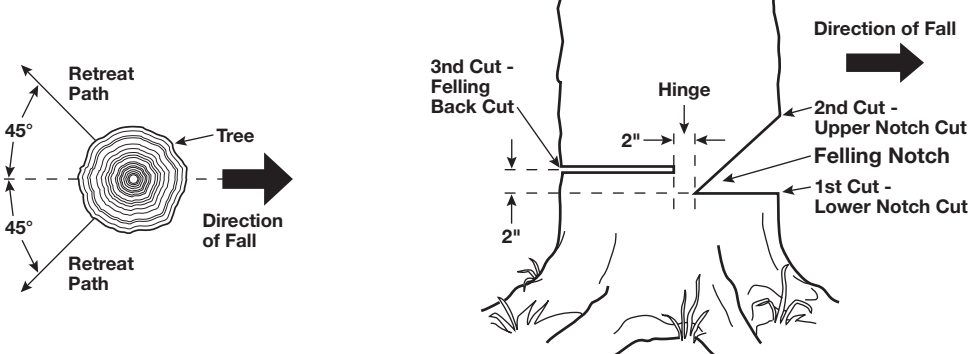

Fig. 9 Retreat Path from Falling Tree (left) Fig. 10 Cutting Sequence for Felling a Tree (right)
- Before felling the tree it is advisable to plan and clear a retreat path. Make the retreat path in the opposite direction of tree fall and at a 45° angle (Fig. 9).
- Hold the chain saw so that the guide bar is horizontal and cut the lower notch as low to the ground as possible. Make this cut 1/3 the diameter of the tree trunk (Fig. 9).